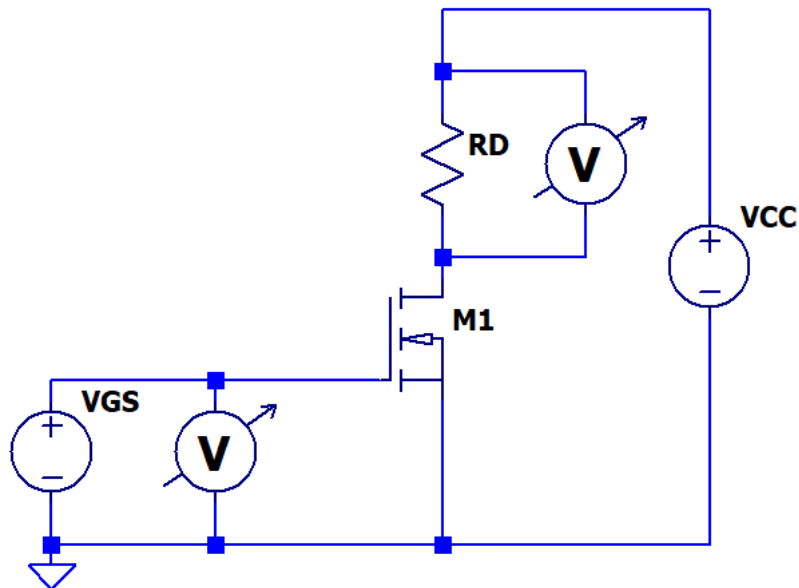
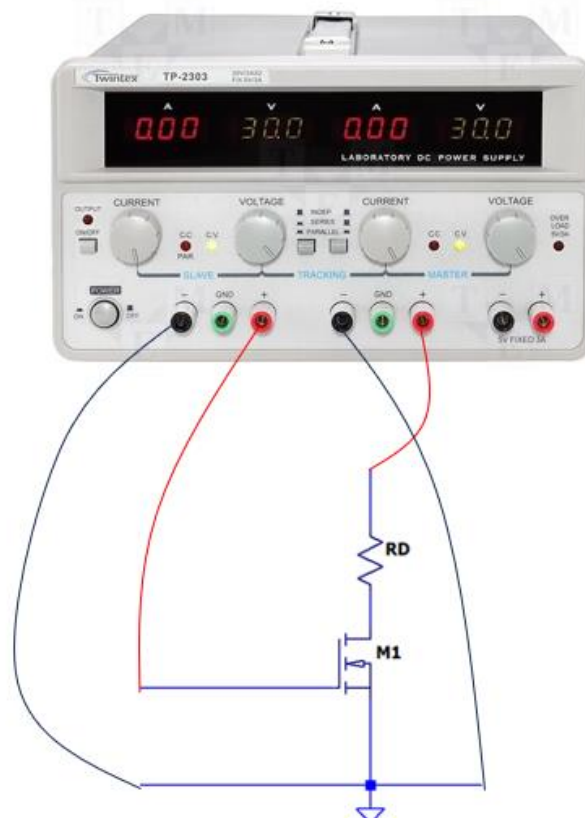
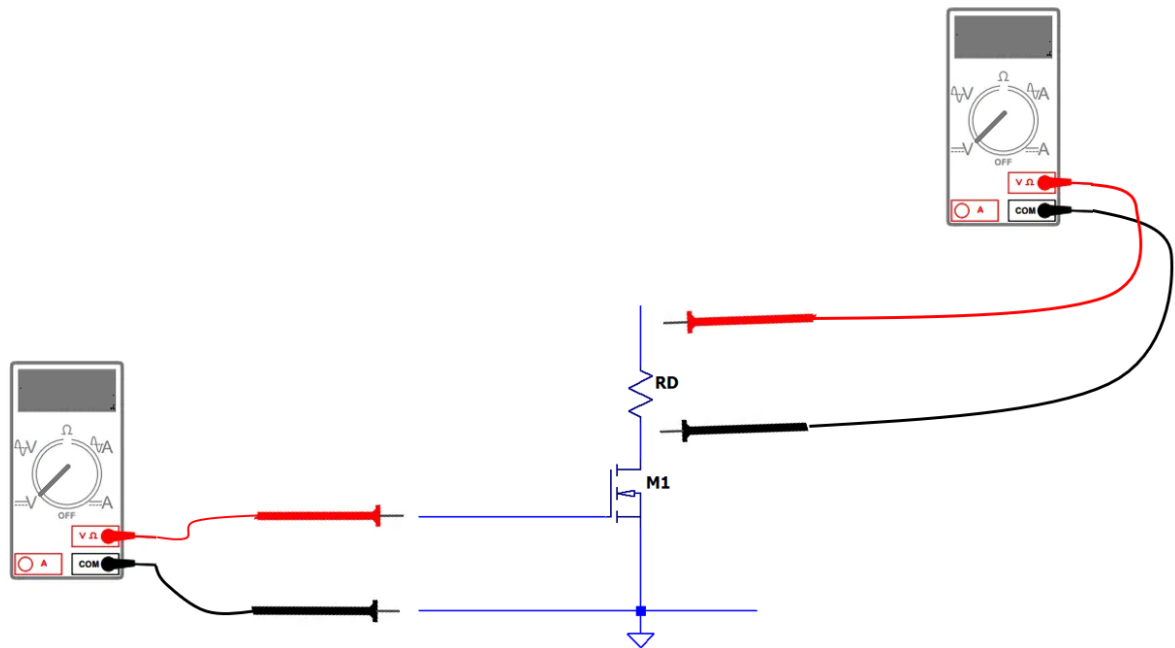

Fig.4. Circuit diagram
Fig.5. Connecting power supply
Fig.6. Connecting power supply
The circuit diagram of measurement is shown in Fig. 4. The visual connection of the power supply and the measuring instrument is shown in Fig. 5 and 6. As shown in Fig. 6, the right output of the power supply provides the drain (output) voltage and the left output provides the gate-source voltage.
During the measurement exercise, the voltage of the gate-source (V_{GS}) and the drain resistance (R_D) are measured by a digital multimeter (see Fig. 6.)
1. Build the circuit depicted in Fig. 4. using the N-type MOSFET (Fig. 6. help!). Choose a value of 100Ω for the R_D resistance!